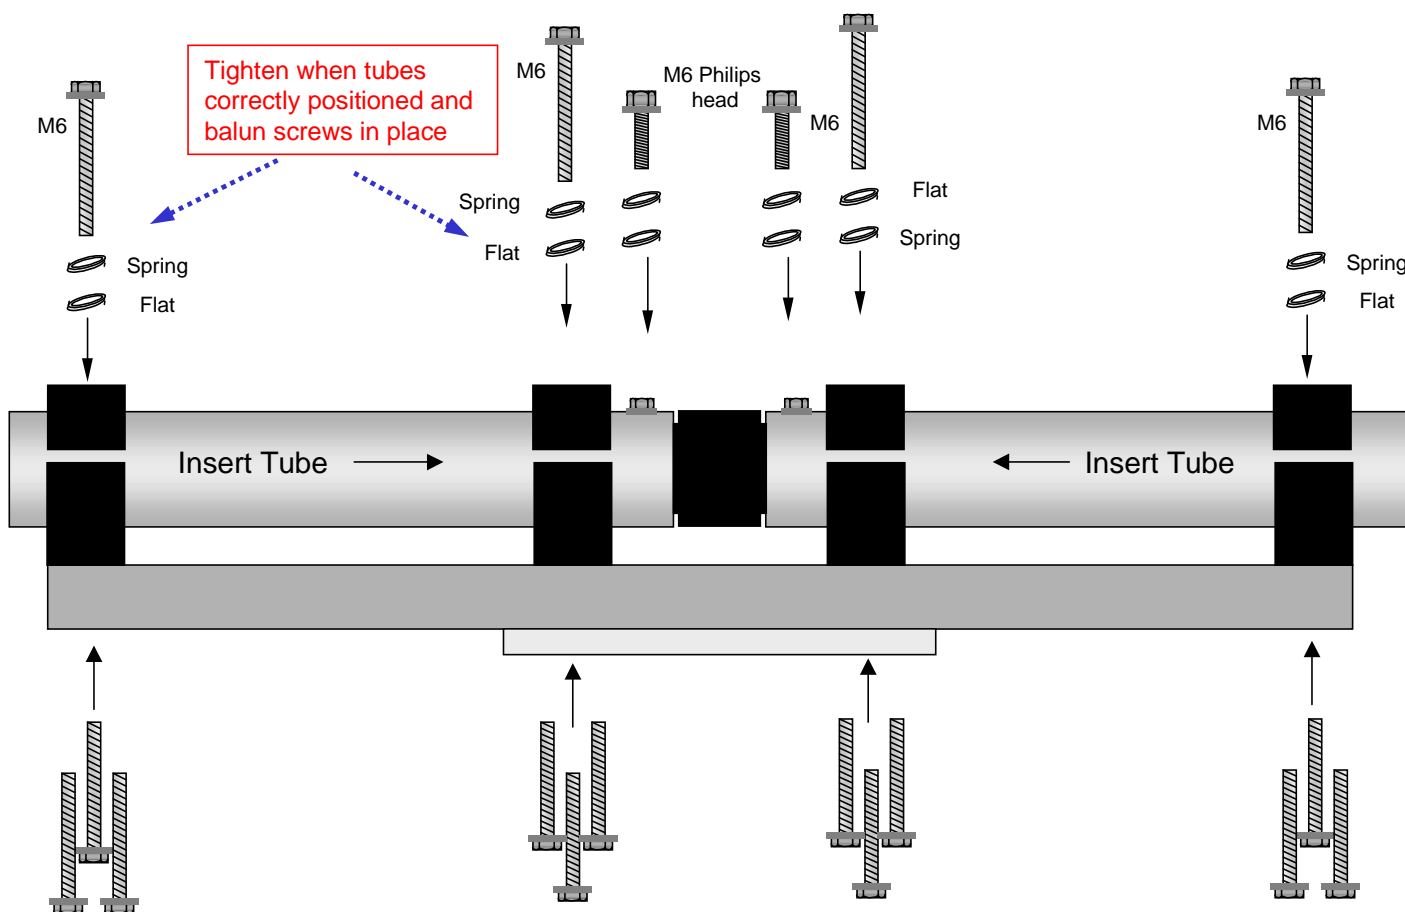

Figure 1 – Centre Mount Assmby Detail
Insert all four (4) M6 x 50mm retaining screws into the retaining clamps, 32mm tubes and insulators, refer to Figure 1 – Centre Mount Assmby Detail. Once all screws have been inserted with at least one turn, tighten each screw in turn.